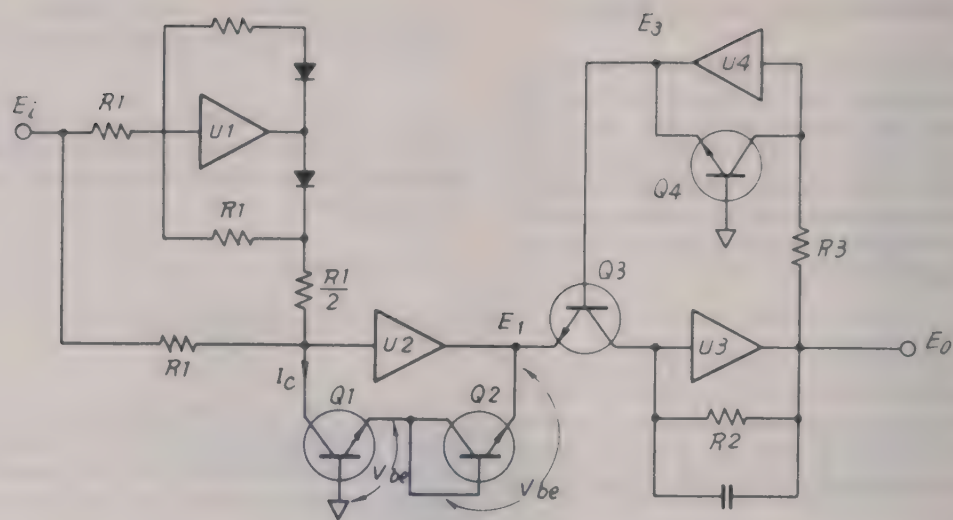

Fig. 1-13 Simplified CONVERTER Circuit
The rms converter circuit employs a module IC (A9009LH), and its basic circuit is as depicted in Fig. 1-13.
In Fig. 1-13, U1 to U4 are operational amplifiers. U1 obtains an absolute value $|E_i|$ of input voltage E_i . Collector current I_c of transistors Q1 and Q2 is proportional to $|E_i|$, output voltage E_1 of U2 is $2 \times V_{be}$, and from expression (1) above,